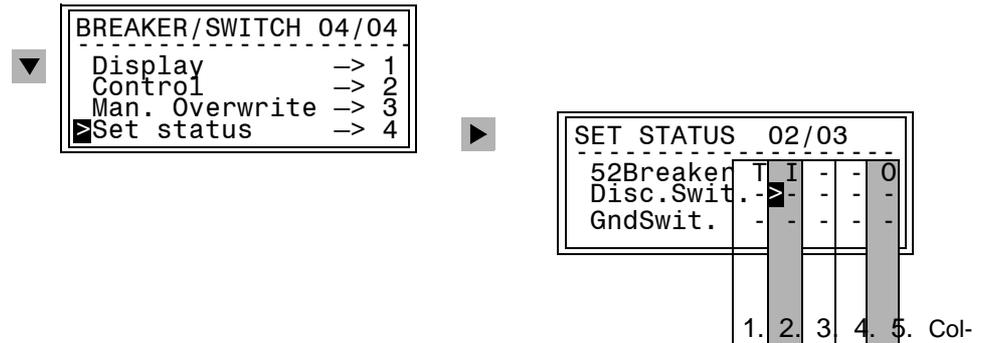

Figure 7-54 Set Status at the Front Panel (example)
Select the item **Set Status** with the **▼** key and switch to the next option using the **▶** key. **SET STATUS** appears, as shown in Figure 7-54.
The example in Figure 7-54 shows the position for the circuit breaker (52) was tagged (**T**) after the input ignore (**I**) was set, which means the message input was de-coupled from the system. The output block is active (**O**), so the command output is also de-coupled from the system. For the disconnect switch and the ground switch, no limitations are set.